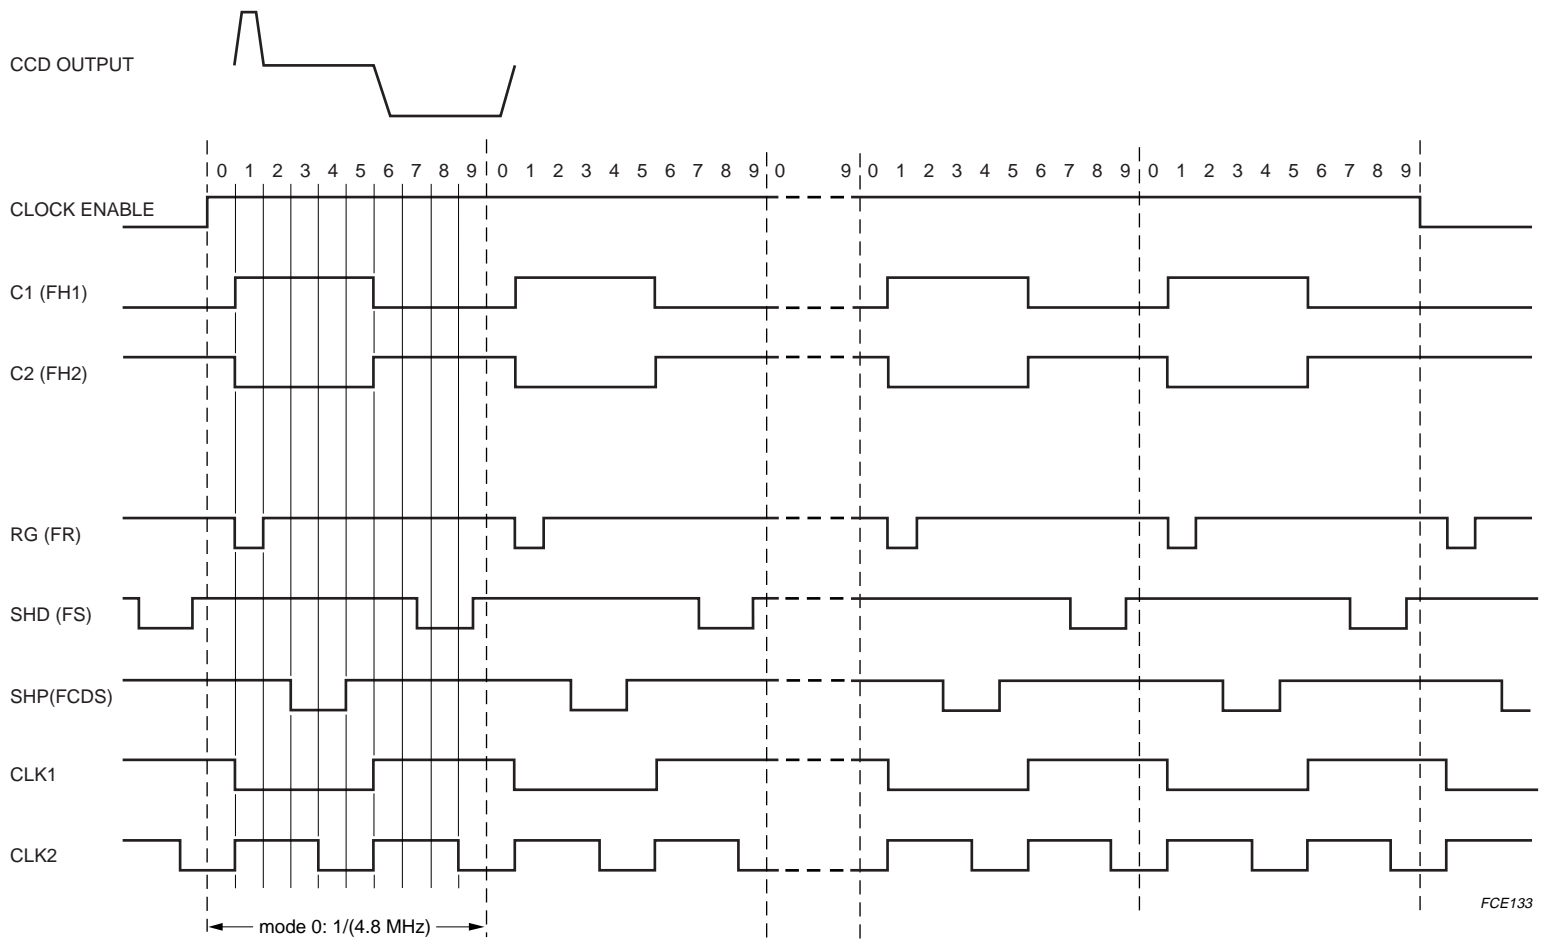

Fig.4 High-speed pulses for PAL medium resolution (1).
- High-speed pulses, see Figs 4 and 5